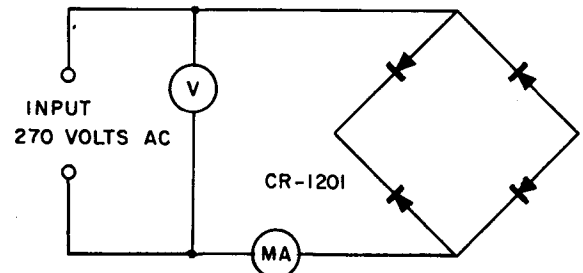

Figure 4-2. Reverse Current Test
(2) REVERSE CURRENT. (Figure 4-2.)—Apply 270 volts R.M.S. to the input. After 15 seconds, the current should not exceed 30 MA.